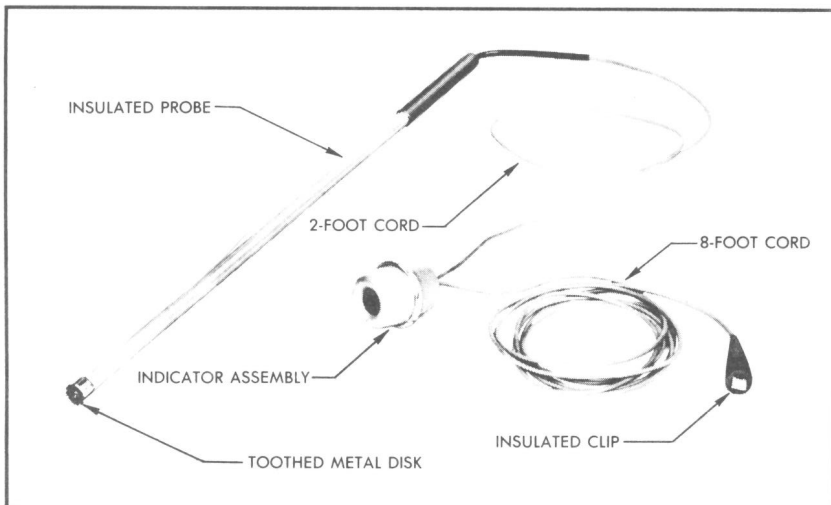

FIGURE 1. B Voltage Tester
1.01 This practice provides the description of the B Voltage Tester, CTS #74-94-310-3, (Figure 1) and accessories: